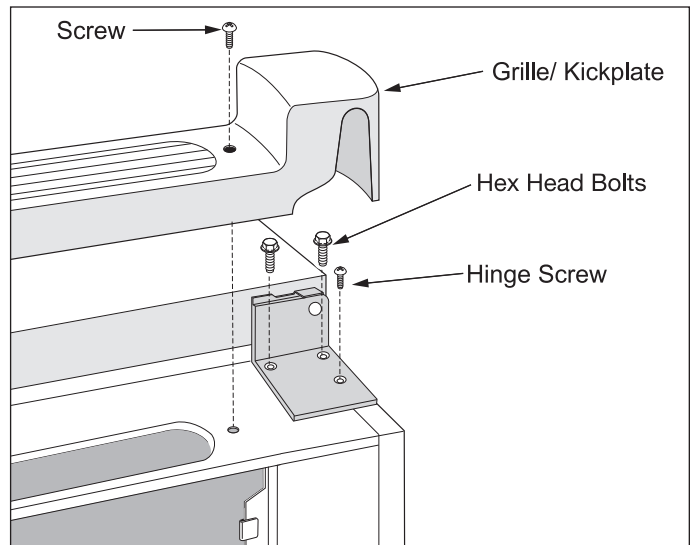

Figure 2-30. Bottom Hinge Removal
6. Using a 3/8" socket or wrench, extract the two bolts securing the lower hinge to the unit frame. Use a phillips head screwdriver to extract the remaining screw from the lower hinge assembly. (See Figure 2-30).